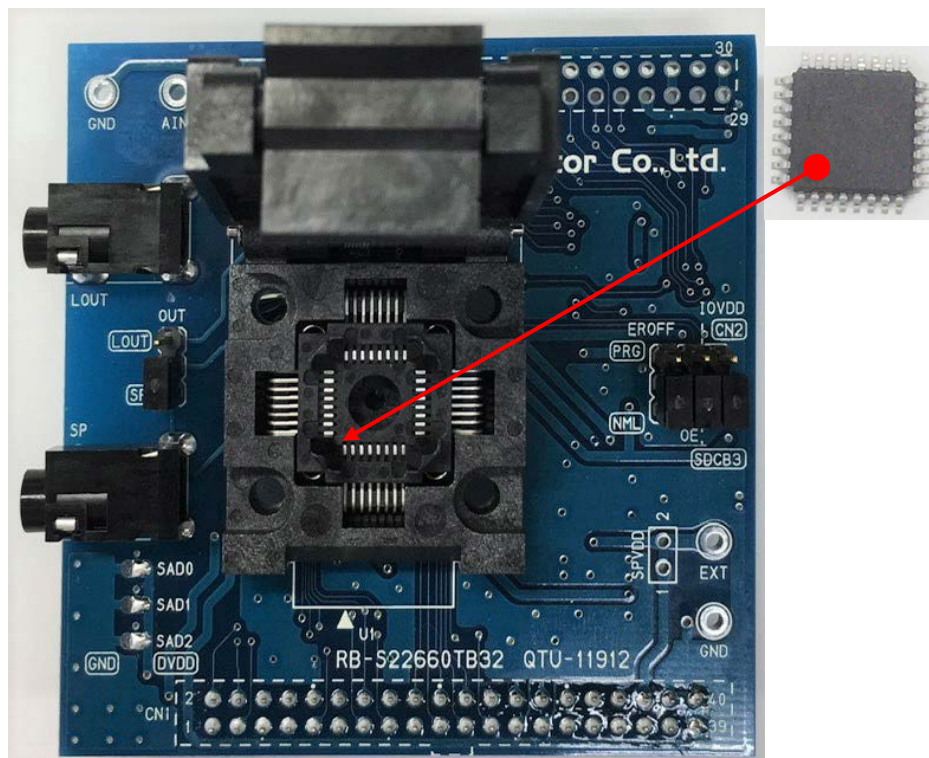

Figure 1 Outline Diagram
- Turn off the power when loading Speech Synthesis LSIs into the RB-S22660TB32. Pin 1 is the position of the board silk ▲ at the bottom left with respect to the socket opening. The Figure 1 shows the setting directions of Speech Synthesis LSIs.